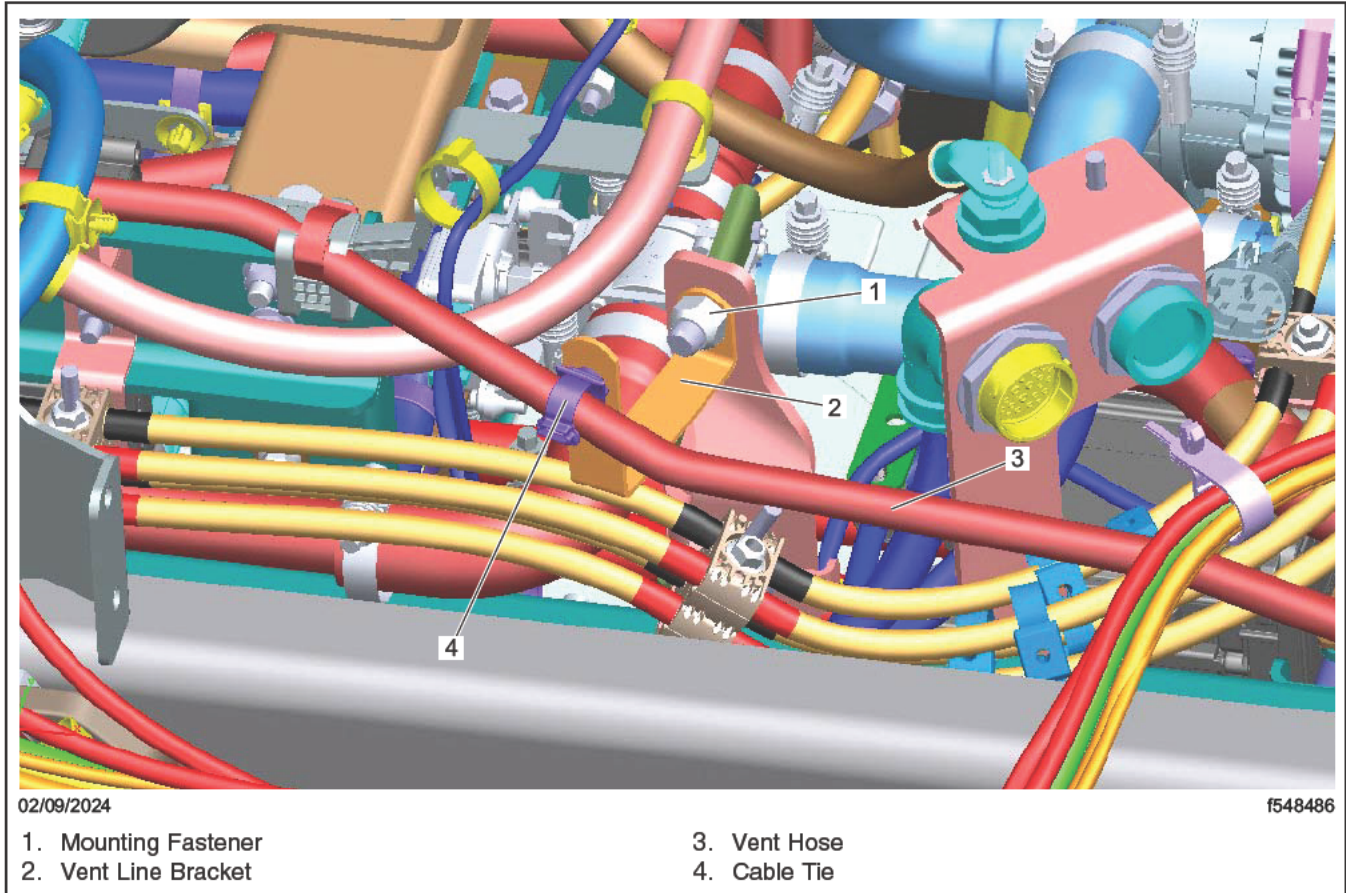

Fig. 10, Installation of Vent Line Bracket
34. Install the vent line bracket, and install the mounting fastener. See **Fig. 10**.